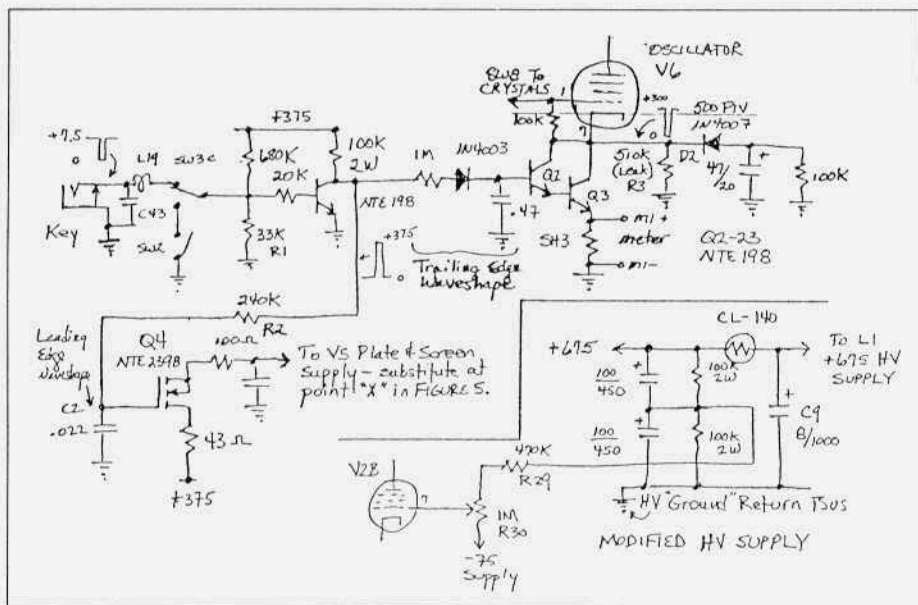

Figure 9. Waveform keyshaping schematic.
The circuit presented in Figure 9 represents the final circuit. Somehow, I wish it didn't look so deceptively simple (after all, a circuit with just gobs of stuff in it would look so much more bril-
When adding this much additional capacitance to the power supply, it is quite important to add a current inrush limiter (CL) as shown in Figure 9. This will limit the very large inrush currents